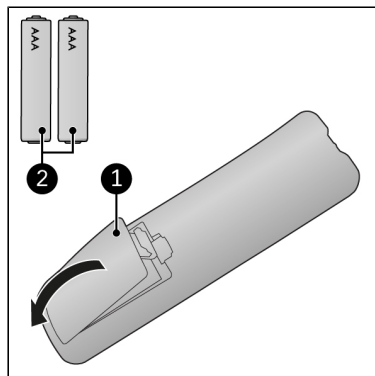

Figure 32.
1. Remove the battery cover (Figure 32, pos. 1).
3. Insert two batteries (AAA 1.5 V) (Figure 32, pos. 2) as indicated in the battery compartment. Make sure to insert the batteries correctly.